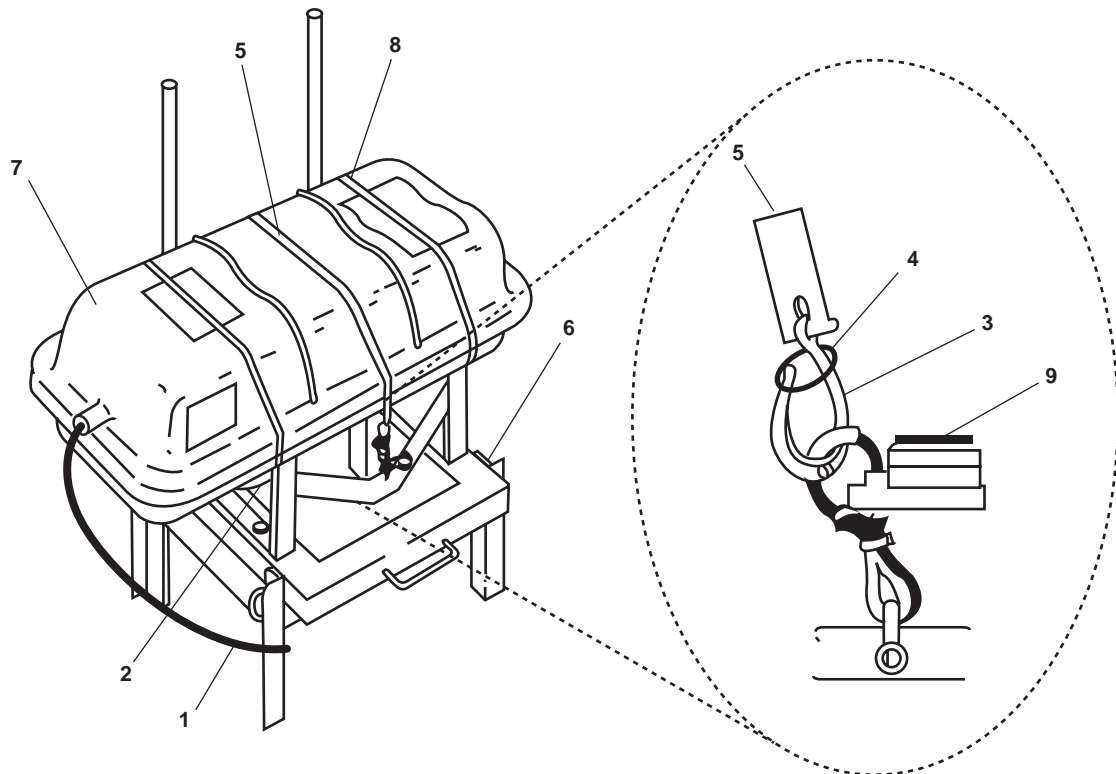

Figure 1. Life Raft
1. Secure the life raft painter line (figure 1, item 1) to the life raft launching ramp (figure 1, item 2).
2. Visually inspect the pelican hook (figure 1, item 3), locking ring (figure 1, item 4), and the retainer strap (figure 1, item 5) for damage. Notify the maintenance supervisor of any damage.
1. Open the pelican hook (figure 1, item 3) by prying the locking ring (figure 1, item 4) up and over the end of the hook.
2. The retainer strap (figure 1, item 5) is released.
3. Remove the two retaining pins (figure 1, item 6).
4. Two crewmembers should tilt the life raft container (figure 1, item 7) and launch it over the side of the vessel.
5. If the life raft does not inflate after hitting the water, pull sharply on the painter line (figure 1, item 1).
Three container straps (figure 1, item 8) that are secured around the life raft container (figure 1, item 7) will release as the life raft inflates.